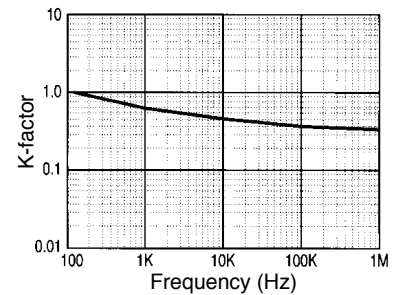

Fig. 4 Correction coefficient (K)
- $P_{MAX}$ : Maximum permissible capacitor power loss (W). Varies with the ambient temperature and case size. Calculated according to Table 1.
- ESR (D): Capacitor equivalent series resistance ( $\Omega$ ).
Since the ESR(D) value varies with the ripple frequency, however, the following correction must be made in accordance with the operating frequency (see Table 2 and Fig. 4).
K: Coefficient for the operating frequency (Table 2 and Fig. 4).